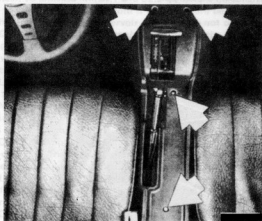

Fig. 6.19. Console retaining screws (automatic transmission). (Sec. 17)
- 2 To remove the centre console, first release the four retaining screws (Fig. 6.19) and then, by manoeuvring the console to enable the selector lever T-handle to pass through the gear selector slot, lift away the console.